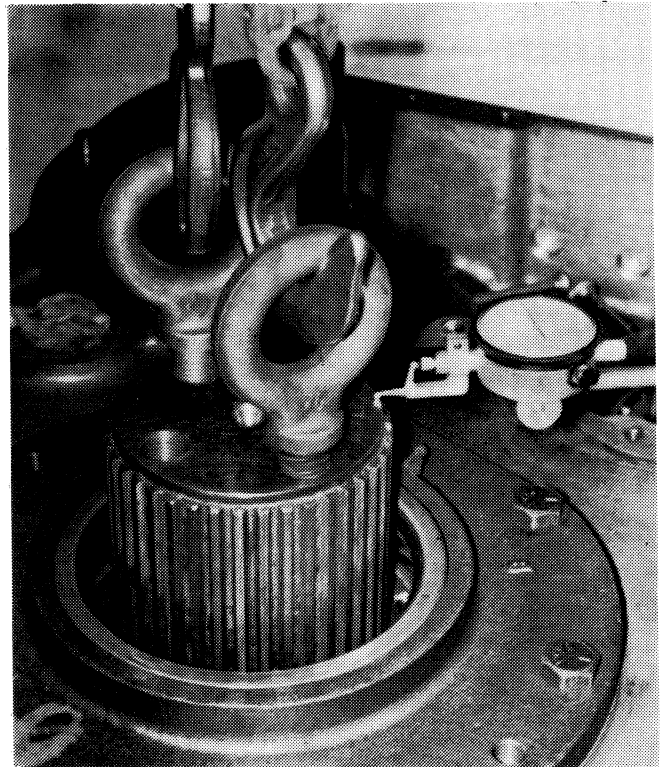

Figure 9-6. Applying Rearward Force on Output Shaft.
l. Attach a sling to the eyebolts and use a hoist and fish scales to apply 1500-1700 lb. upward thrust on the shaft. See Figure 9-6.